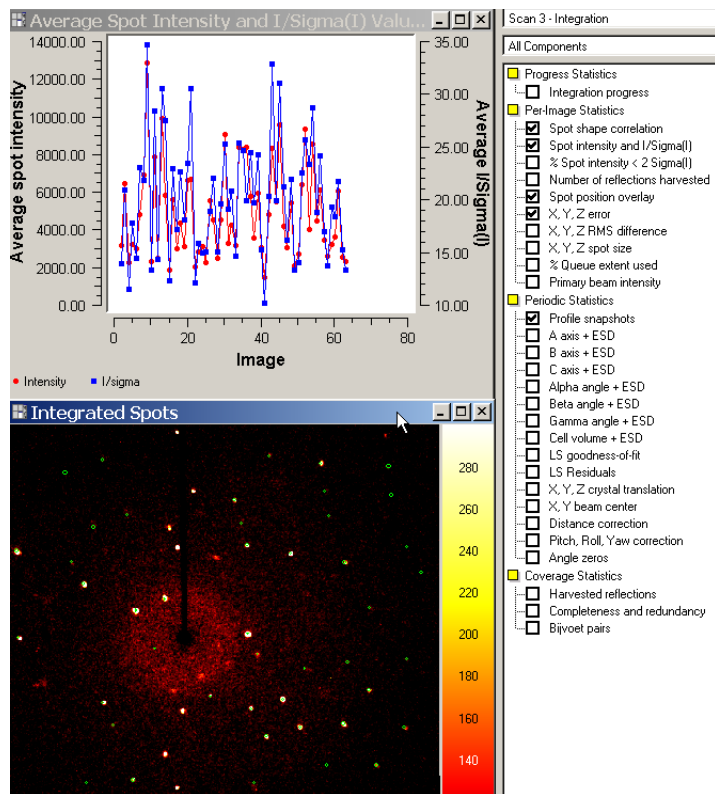
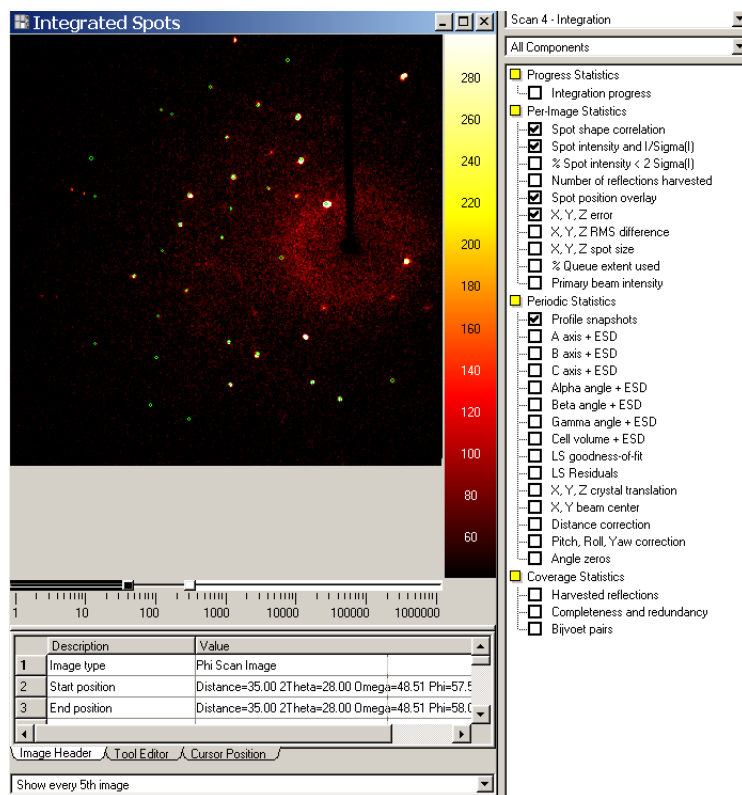

Figure 7.20 - Spot Position Overlay
Figure 7.21 - Full view of the Spot Position Overlay
- Click on Spot Position Overlay (in Per-Image Statistics) to add one of the most powerful windows for monitoring the progress of the integration. Pull up on the Window Tool Bar for Integrated Spots (the cursor arrow is pointing to this tool bar in Figure 7.20) to display the entire window (see Figure 7.21).